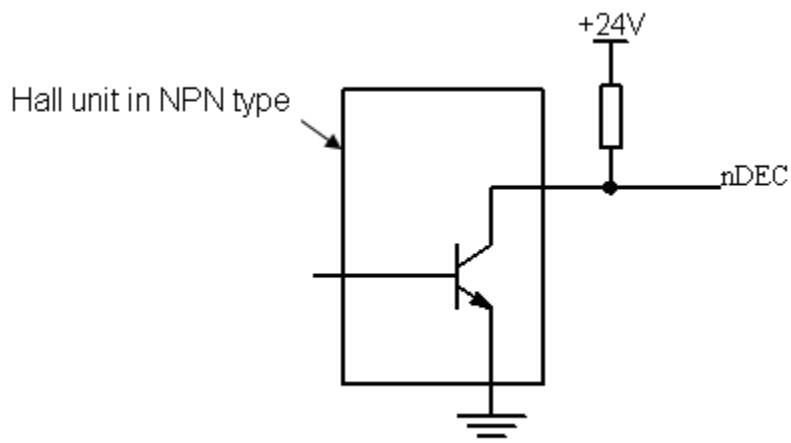

Fig. 2-9 Connection with Hall unit in NPN type
b): Refer to the following Fig. 2-9 about the connection method of taking one Hall unit in NPN type as the deceleration signal: